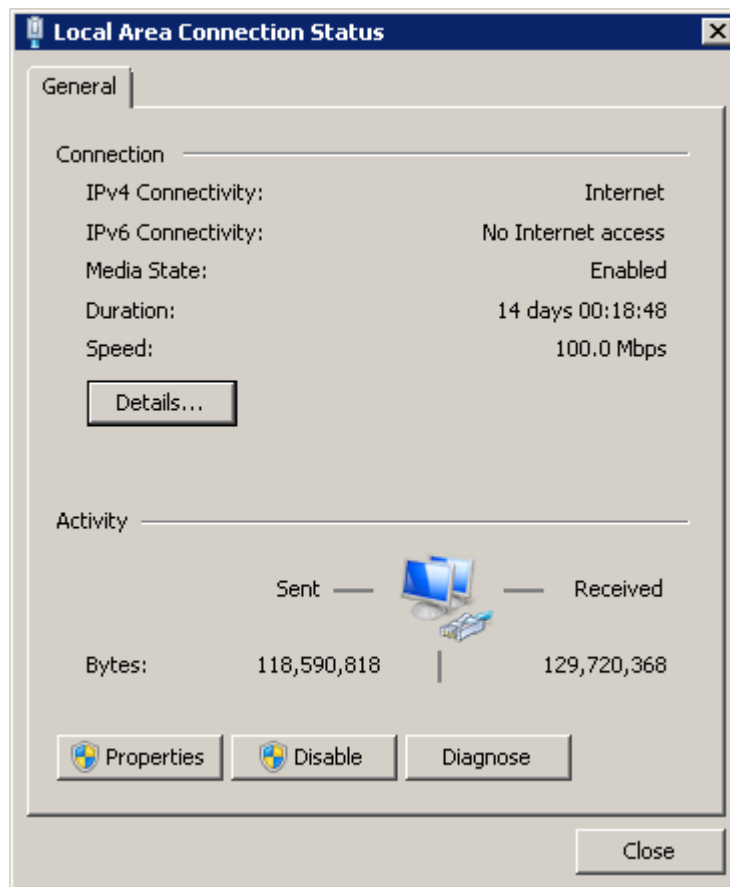

Figure 4-22 Local Connection Status
- Step 1.** Double click the icon of **Local Area Connection** in the taskbar to pop up the **Local Area Connection Status** window, as shown in Figure 4-22.